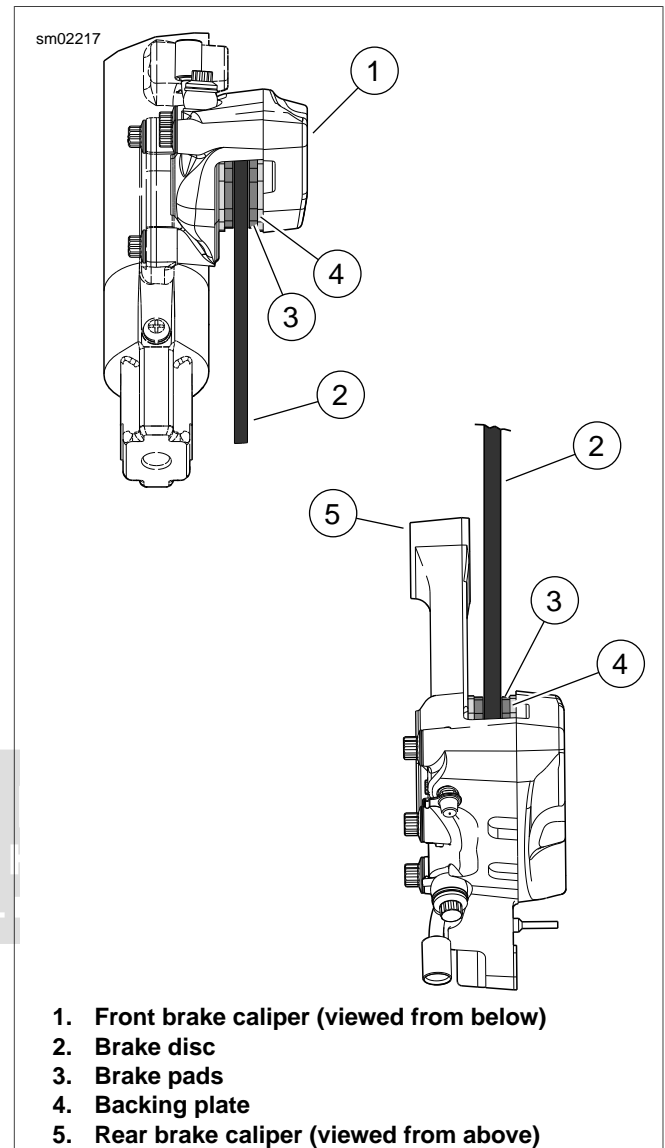

Figure 1-33. Brake Pad Inspection
See Figure 1-33. Replace brake pads (3) if brake pad friction material on either the front or rear caliper is worn to 0.04 in. (1.02 mm) or less above the backing plate (4). Always replace both pads in a caliper as a set. See 1.17 BRAKE PADS AND DISCS, Brake Pad Replacement.